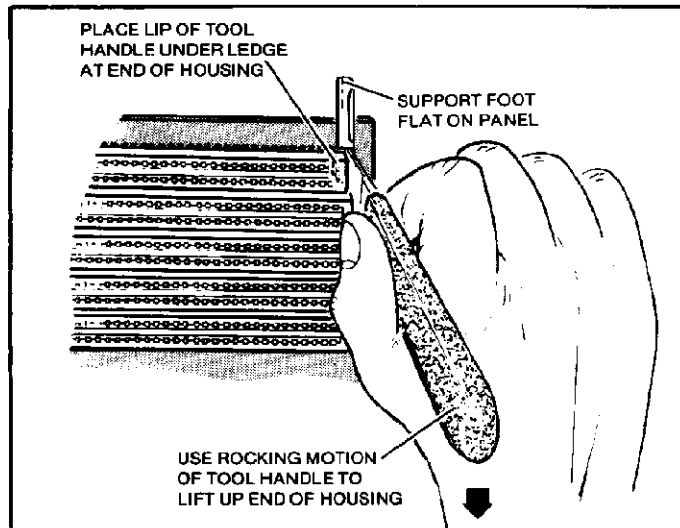

Figure 2
- Place support foot flat on panel and lip of tool handle under ledge at end of connector housing. See Figure 2.